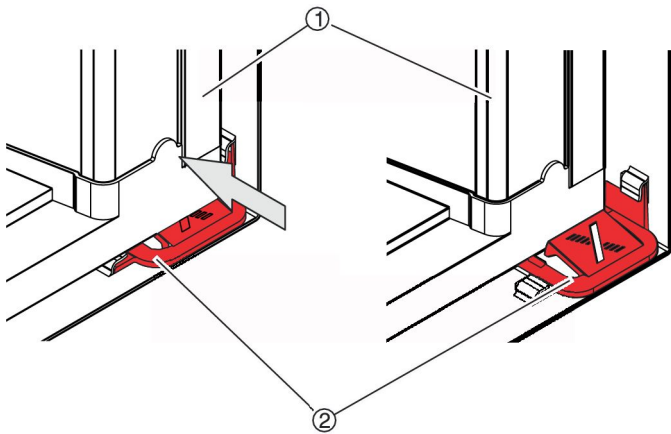

Fig. 56: Filter element locks in place
6. ▶ Push the new filter element (Fig. 56 /1) in and over the quick release fasteners (Fig. 56 /2) until it locks into place.